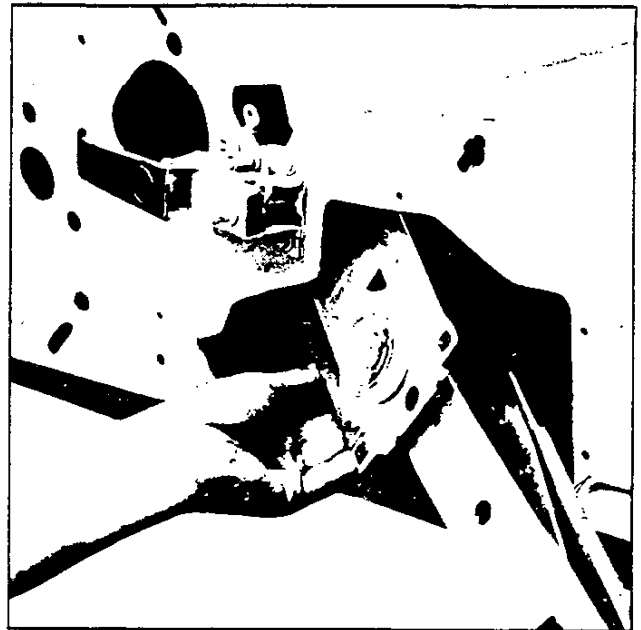

Fig. 33-Removing Window Regulator
3. Remove two (2) sash bolt and nut assemblies retaining window glass.
4. Remove two (2) screws securing stationary horizontal channel.
5. Remove window crank housing by removing three (3) screws.
7. Remove two (2) screws located adjacent to spring opening retaining regulator.
11. While depressing front channel outward, slide regulator assembly forward and rearward to remove through access hole as shown in Figure 33.